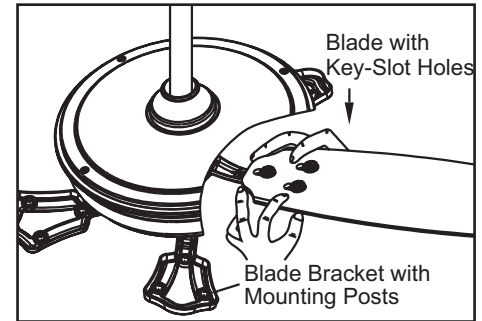

Figure 15a
1. Mount the fan blades to the blade bracket by aligning the three key-slot holes in the blade with the three posts on the top of the blade bracket (Figure 15a).
2. Hold the blade with both hands close to the blade bracket and press the blade down firmly. Ensure the key-slot holes are properly seated on the blade bracket posts (Figure 15a).